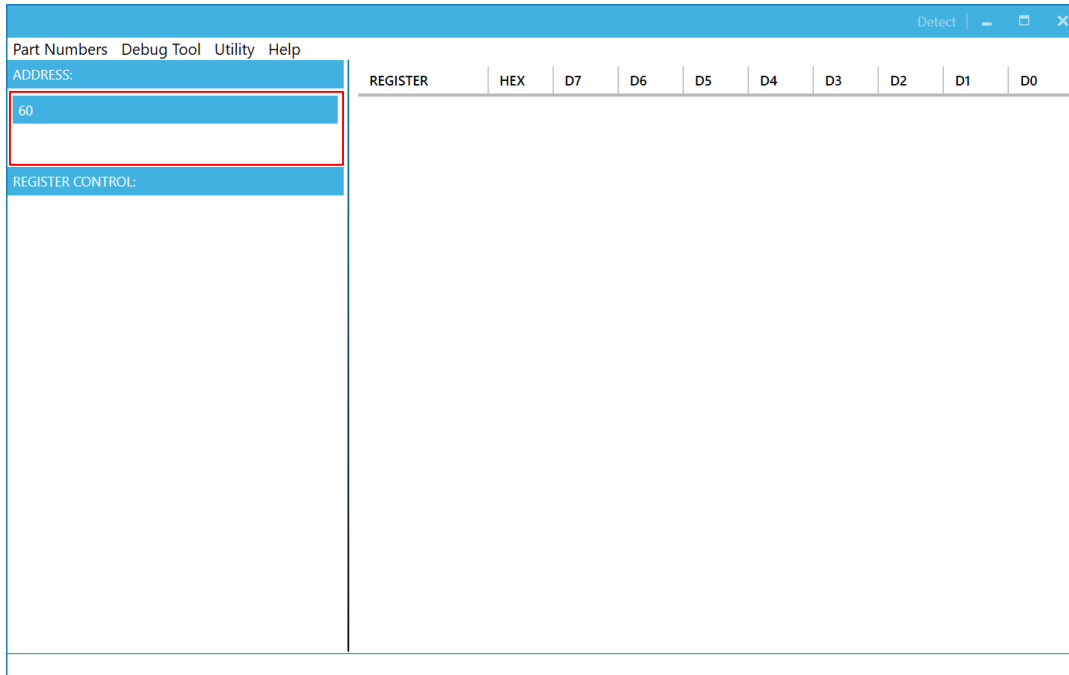

Figure 7: Appearance of Address Indicates Successful Connection
- If the connection is successful, the address will be listed in the section titled “Slave Address” (see Figure 7).